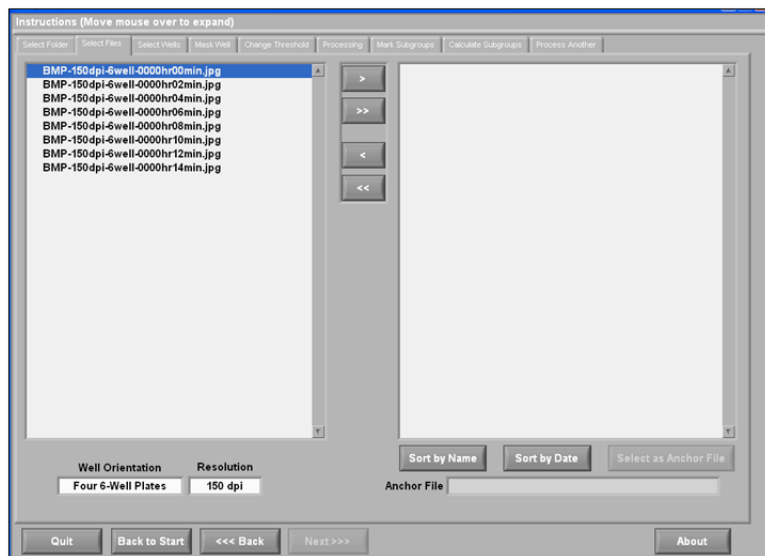

Figure 19. Selecting the image files to analyze
- 1) The images from the *IMAGE FOLDER* appear in the left window on the *SELECT FILES* screen (**Figure 19**). The images to process may be selected one at a time or grouped using the Control or Shift keys. They are moved to the right window using the (>) button. Use the (>>) to move all the images to the right window. The right window signifies the images which are going to be processed. *The images are processed in the same order as they appear in the window*. To deselect an image from being processed, select an image in the right window or group them using the Control or Shift keys and press the (<) button. The (<<) moves all the images back to the left window to remove them from processing.